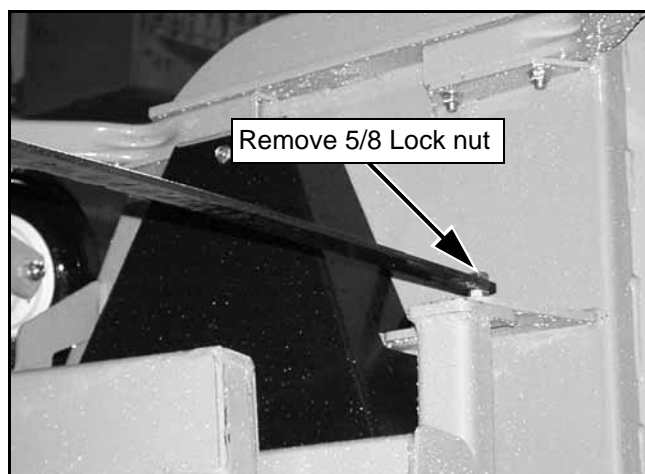

Figure 28. Remove Shipping Strap (Right Wing)
6. Remove 5/8 lock nuts and remove shipping strap from between right and left decks, Figure 28.